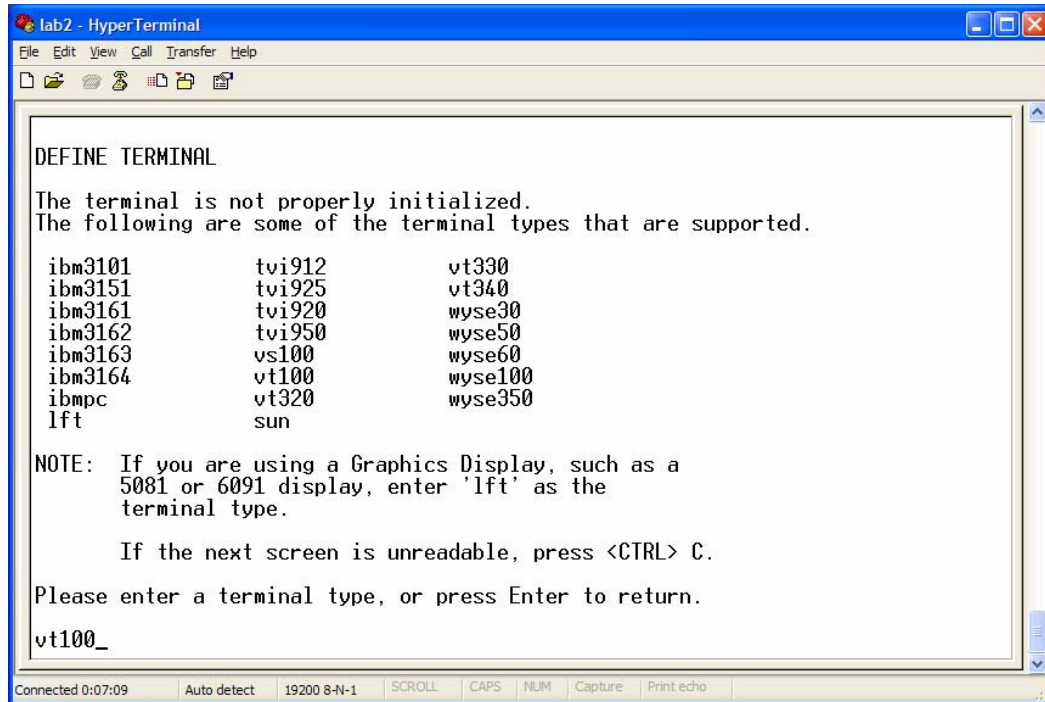

Figure 17. Entering the tty device
9. If you are using a PC with HyperTerminal services, type **vt100** as the terminal type. Then, press **Enter** (see Figure 17).